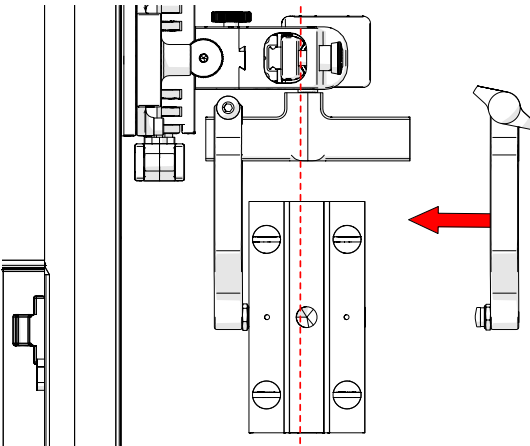

Fig. 174 - Align probe with yoke
6. Align the middle of the wedge with the centre of the yoke (Fig. 174).
7. Tighten both the probe holder adjustment knob and the arm clamp screw (Fig. 174) while ensuring the wedge remains centred with the yoke.